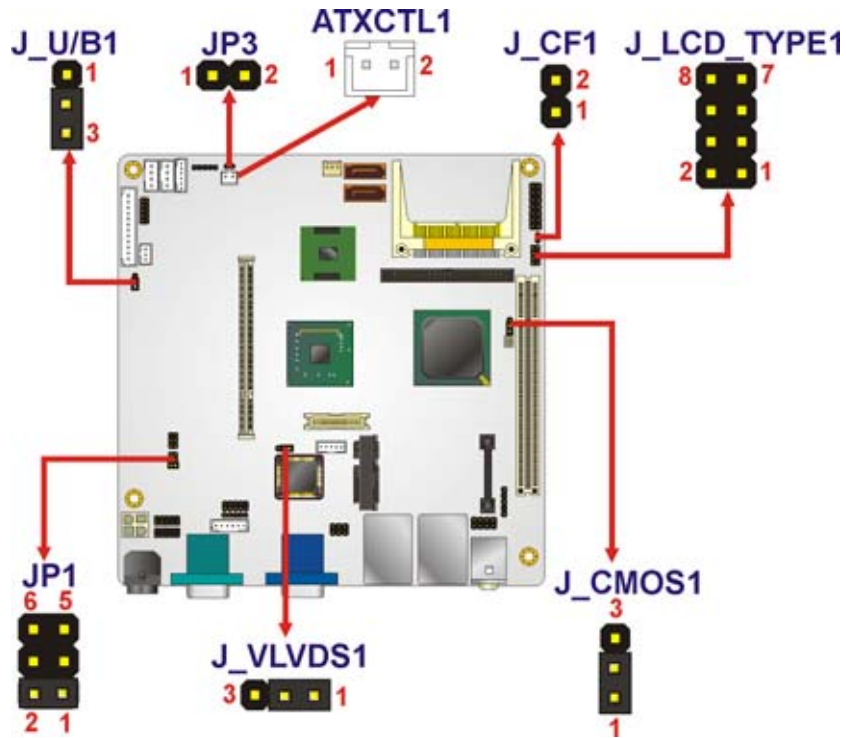

Figure 5-4: Jumpers
- Jumper Location:** See Figure 5-4
Jumper Location:	See Figure 5-4
- Jumper Location:** See **Figure 5-4**